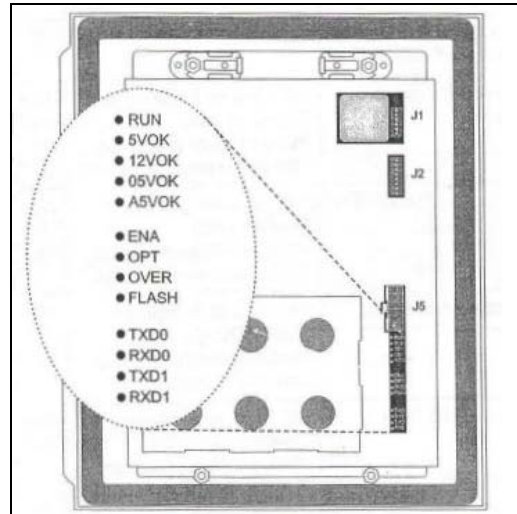

Figure 1-9. Processor Board
- m. Perform visual inspection of the Sensor electronics. Open the door of the sensor cabinet. Inspect the status LEDs on the Processor Board, located on the back of the door. See Figure 1-9 and Table 1-1. If abnormal, troubleshoot.